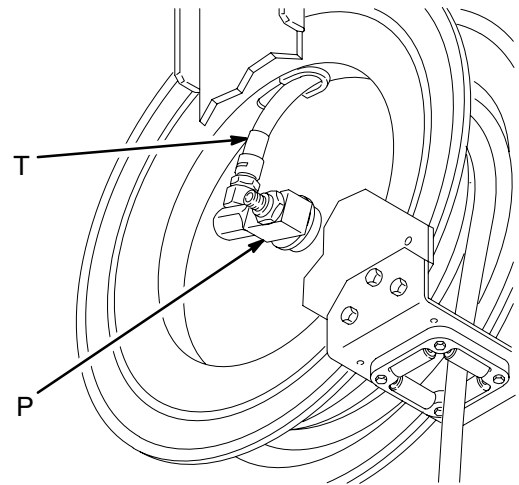

Fig. 9
5. Attach the hose (T) to the hose reel swivel (P) (see Fig. 9), and carefully remove the c-clamp.